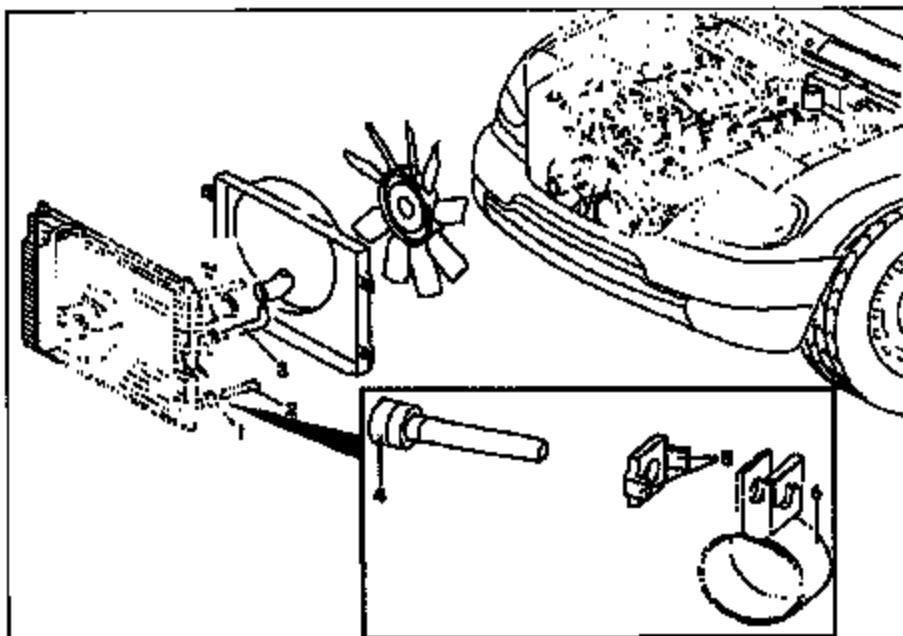
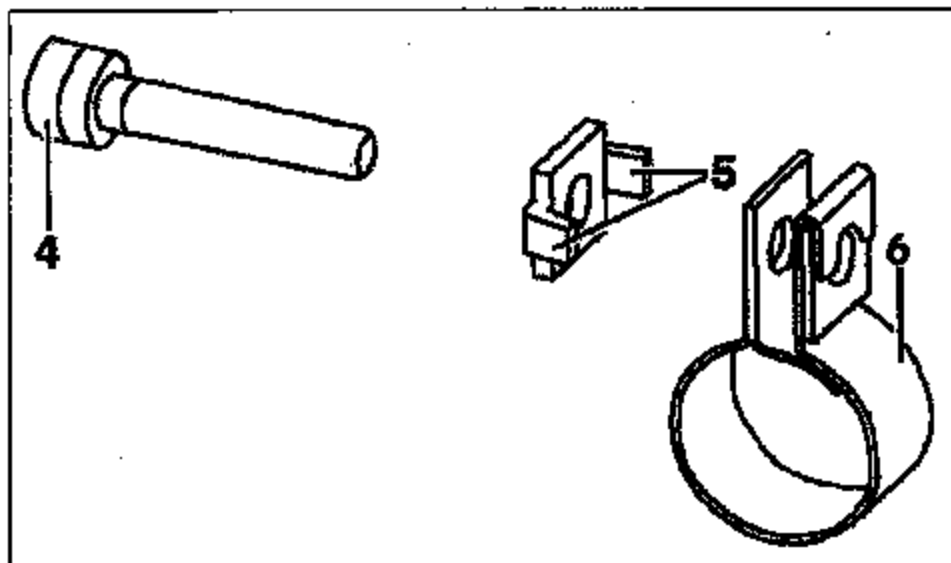

Figure 1
Figure 2
DCAG has determined that the lower power steering hose clamp (1, Figure 1) located on the lower power steering hose (2, Figure 1) at the lower left hand corner of the radiator must be replaced, with a new clamp (6, Insert, Figure 1). The hose clamp may not provide sufficient clamping force for this connection and may cause fluid loss.
4. Visually locate both upper (3, Figure 1) and lower (2, Figure 1) power steering hose and then using MBUSA Special Tool: 000 689 40 37 00, clamp off (near radiator) both upper and lower power steering hoses to prevent any fluid leaks.
5. Carefully loosen only, the existing hose clamp (1, Figure 1) and then slide hose clamp away from the radiator. Do not remove existing hose clamp at this point.
In order to prevent power steering fluid leak, do not disturb or remove lower power steering hose (2, Figure 1) in any way.
6. Carefully inspect the condition of the lower power steering hose (2, Figure 1) at the radiator.
7. Open replacement hose clamp (6, Figure 2) just enough for clamp to fit over the outer circumference of the lower power steering hose (2, Figure 1).
1 NOTE: The new replacement hose clamp (6, Figure 2) must have the number "Nr St 16" stamped into the outer circumference of the hose clamp surface. Any other type of hose clamps must not be used.
8. Slide the installed new hose clamp toward the radiator and locate in the proper position on the lower steering hose (1, Figure 1) as shown and tighten hose clamp screw (4, Figure 2).
Observe tightening torque of: Nm 2.0 + .5 / - 0.0 and proper orientation of the anti-rotation tabs (5, Figure 2).
11. Start-up engine and check for any fluid leaks from the power steering hose (2, Figures 1, 3) at the radiator as described in the following steps: